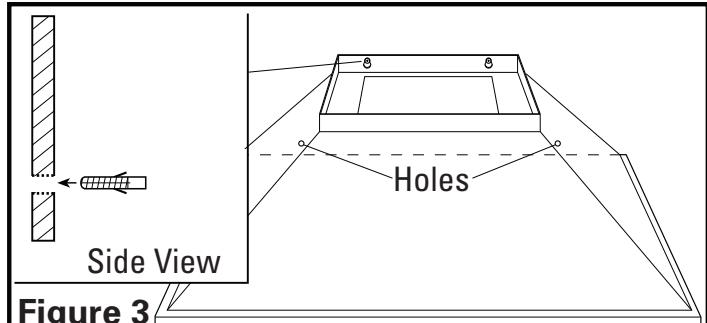

Figure 3
2. With the hood hanging in place from the top screws, mark the location of the lower holes. If installing onto drywall, remove the hood and drill holes into wall using a 3/16" drill bit. Install wall anchors into the drilled holes (one for each hole). If installing into other material (brick, cement, plaster, etc.) choose an appropriate fastener capable of supporting the weight of the hood. Hang the hood over the keyhole anchors and verify that the hood is centered, level and the bottom holes line up with the anchors. Install the provided #6 x 1" screws into the anchors (**Figure 3**). Tighten all screws completely and reinstall the Grease filters.